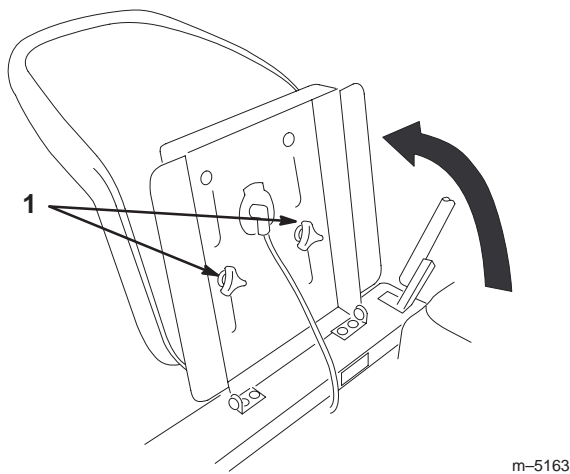

Figure 13
- Raise the seat and loosen the adjustment knobs (Fig. 13).